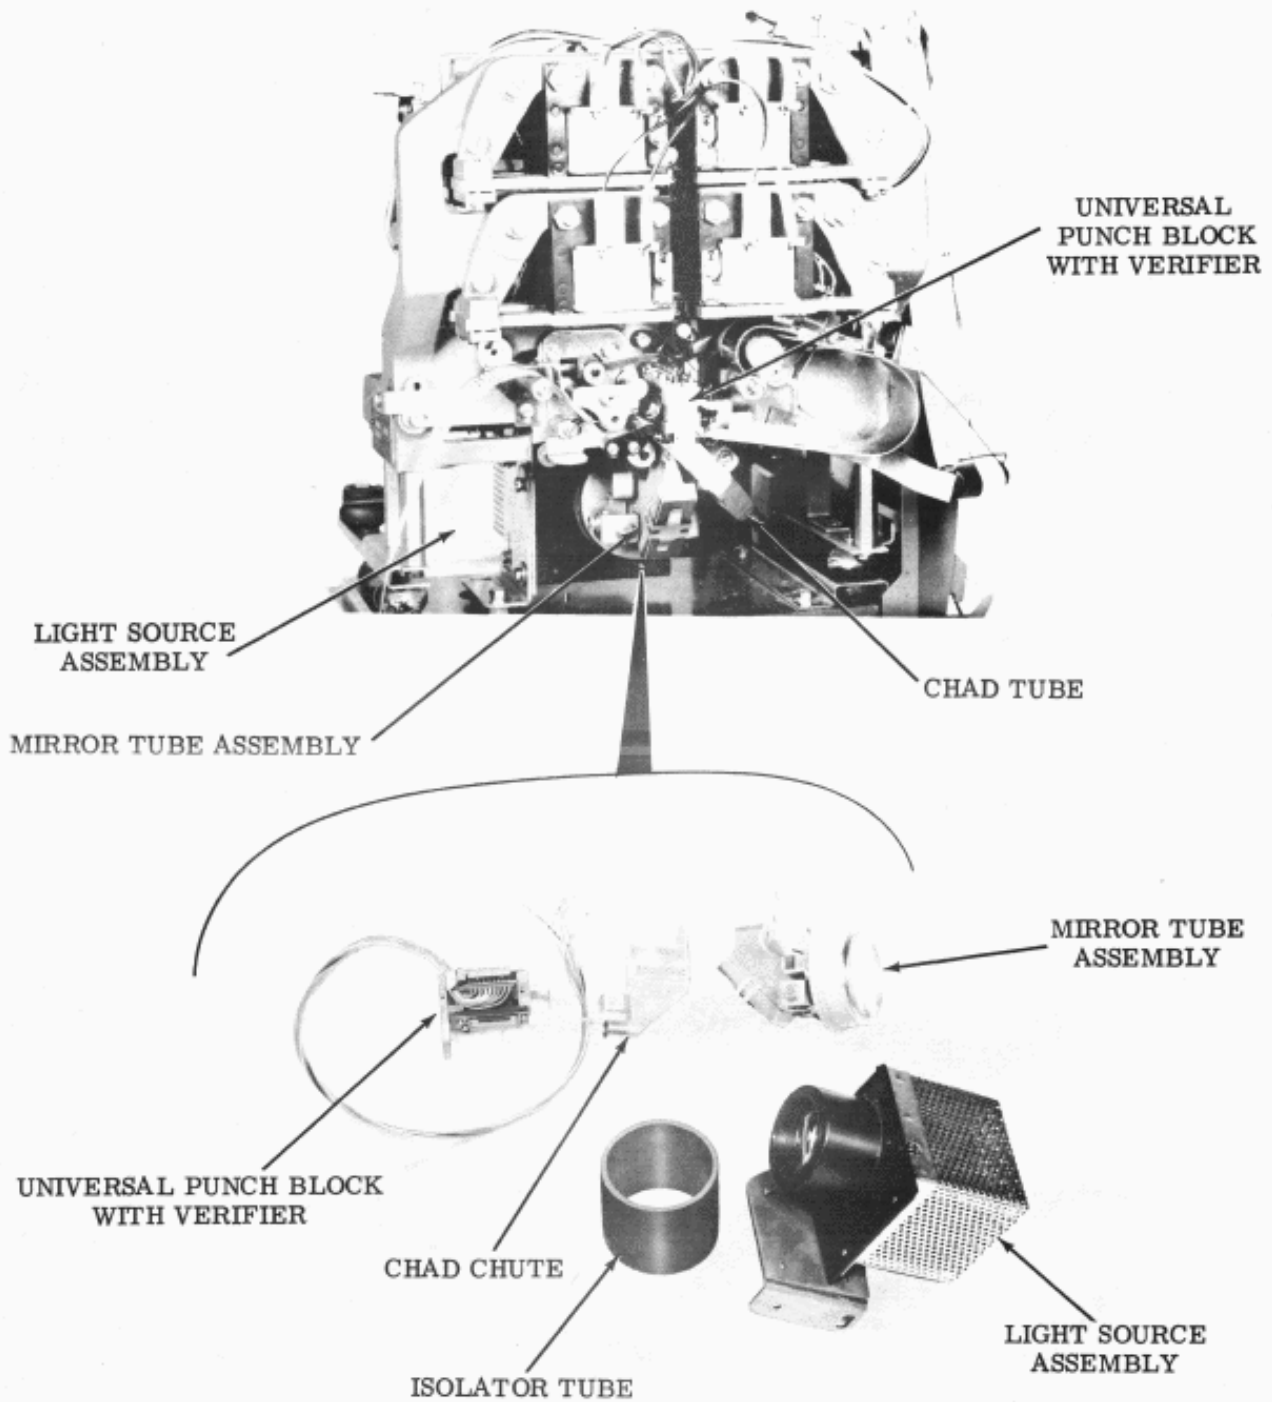

Figure 8 - Eight-Level Punch Unit With Photoelectric Reader, Front View
3.01 To remove the chad chute (Figure 8):
- (1) Remove the chad tube from the chad chute bracket by holding the bracket in one hand and pulling the chad tube off the bracket with the other hand.
- (2) Remove the chad tube bracket by removing the two screws (TP151152), lockwashers (TP3640), and flat washers (TP125011) that secure it to the punch block and adapter bracket.
3.02 To remove the light source assembly (Figure 8):
3.03 To remove the mirror tube assembly (Figure 8):
3.04 To remove the punch block assembly with verifier (Figure 8):